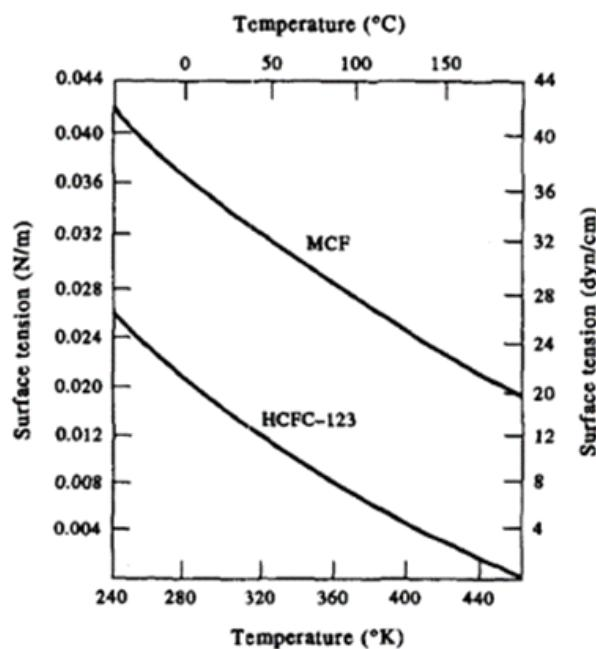

Figure 2: Surface tension as a function of temperature for HCFC-123 and MCF
- [b] Capillary action is important for liquid penetrant testing. Figure 2 shows the relationship between surface tension and surface wetting angle. Using two different penetrant in Table 1, calculate the height of the penetrant above the surface crack at 20°C with respect to crack length for both. From the calculations, which penetrant gives the smallest capillary height at this temperature for a constant crack size? It is given the contact angle is very small and  $g = 9.8 \text{ m.s}^{-2}$ . Other data is given in Table 1.